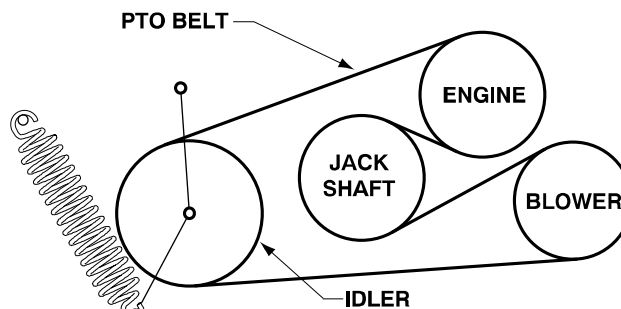

FIGURE 8
- f) Route new belts onto sheaves as shown in the decal located on the back of the left drive shield. See Figure 8.